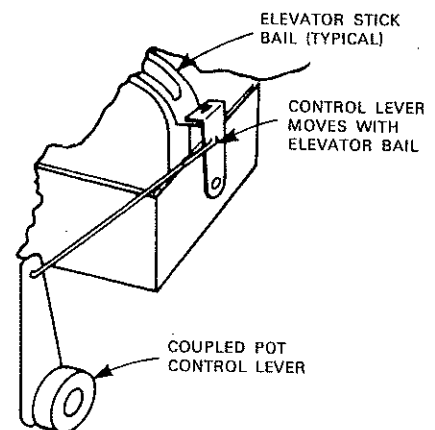

FIGURE 5. ELECTRONIC COUPLING
A third method provides greater flexibility, but requires at least a five-channel system and a slight modification to the transmitter. Fig. 5 shows the modification
Since transmitter layouts and arrangements vary so widely, there is little point in describing the detailed mechanization for these transmitters. Instead, the general arrangement shown in Fig. 5 should be followed. This consists of the following steps:
(1) Attach a linkage to the bail of the elevator stick so it can be used to move a control lever attached to the shaft of a good quality potentiometer. This pot is used for the coupled flap function. The ratio of elevator-pot-shaft rotation to rotation of the shaft of the added pot should be 4:1. This is achieved by making the radius of the link connection attached to the bail equal to one-fourth of the radius of the lever controlling the added pot.
(2) Connect the leads from the added pot (and the existing fifth-channel pot) to the end terminals of a DPDT switch (Fig. 5) and connect the common terminals of this switch to the printed circuit points to which the fifth-channel control pot wires originally connected.